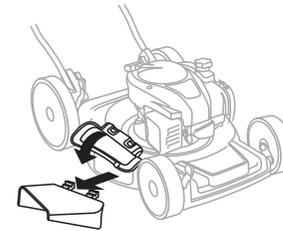

Fig. 9
2. Install the side discharge chute under the mulch door by sliding two hooks under the hinge pin on door assembly. (Fig. 9)